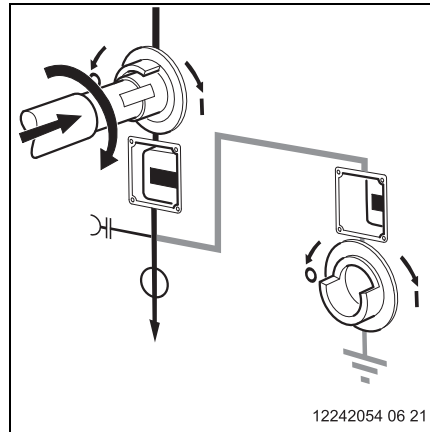

Fig. 49
**6** Switch the disconnector ON. Hold the switching lever (bare shaft) depressed to the end stop against spring pressure and turn it clockwise (Fig. 49).